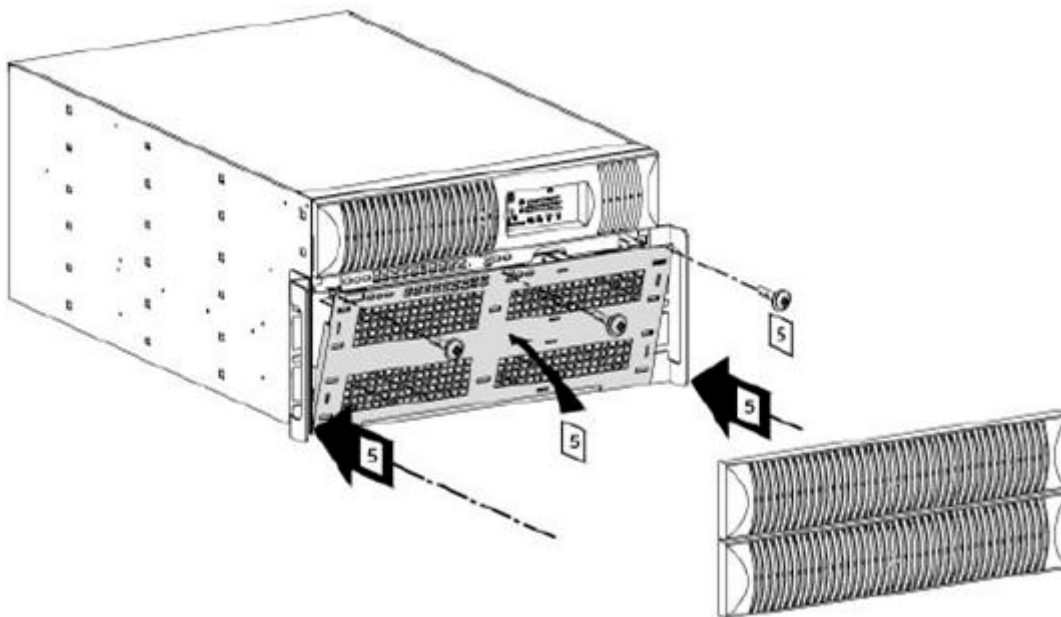

FIG 17 – XPRT-10KVA ATTACH BATTERY COVER ON UPS
4. Fix the battery cover by tightening screws (see FIG 17).